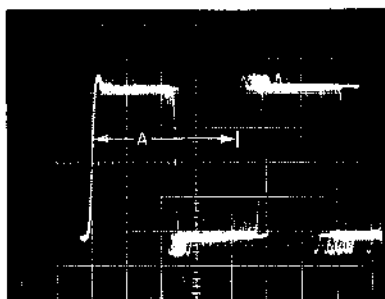

Fig. 26
- Focus the scope on the first multiple waveform trace (Fig. 26).